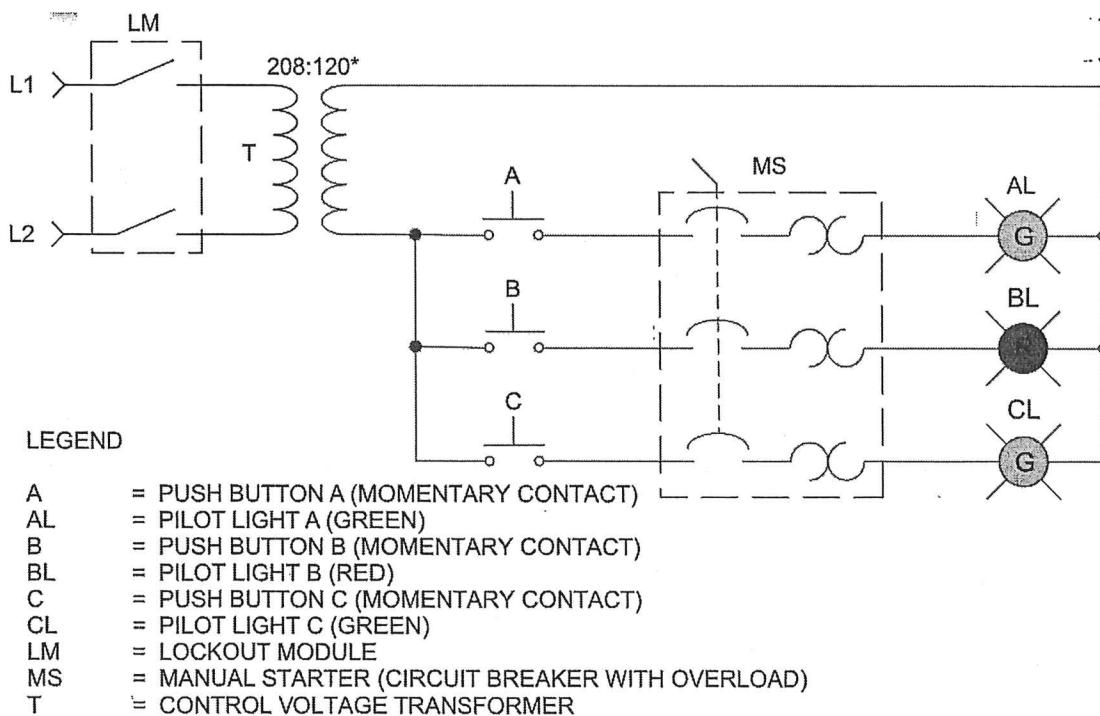

Figure 4
- ____ 2. Wire the circuit as shown in Figure 4 operating each light using the NORMALLY OPEN contacts of the pushbuttons. NOTE that you will need TWO pushbutton modules and TWO pilot light modules.